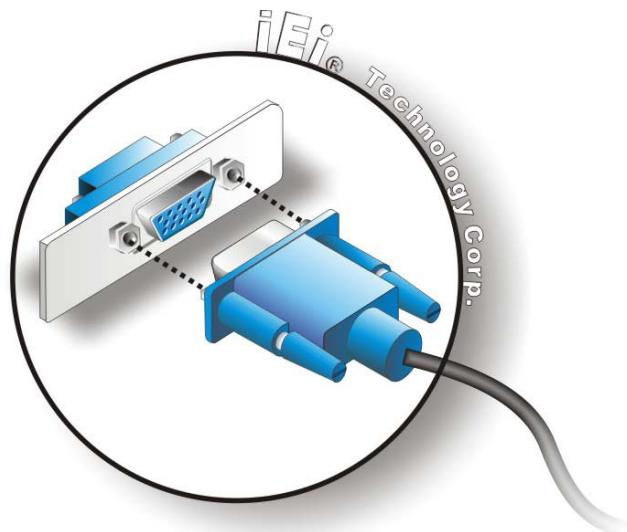

Figure 3-13: VGA Connector
Step 3: Insert the VGA connector. Once the connectors are properly aligned with the insert the male connector from the VGA screen into the female connector on the uIBX-230-BT. See **Figure 3-13**.